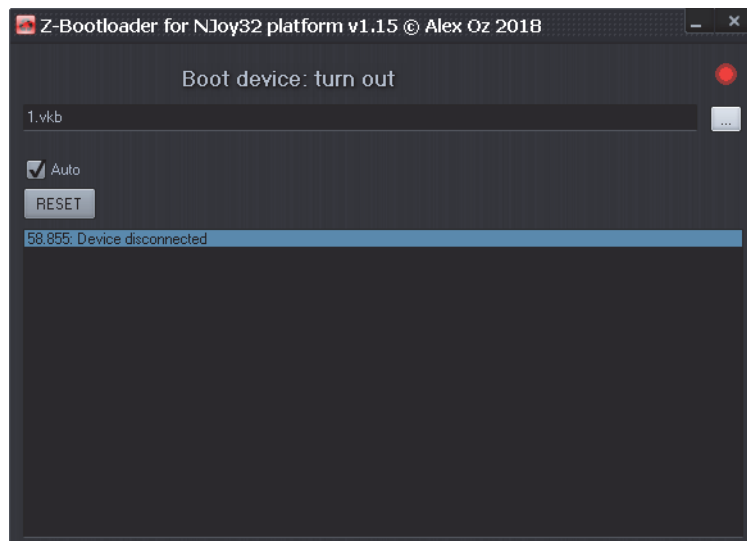

Fig. 2.4.
2. Run ZBootloader.exe. You will see that device is turned out (Fig. 2.4).